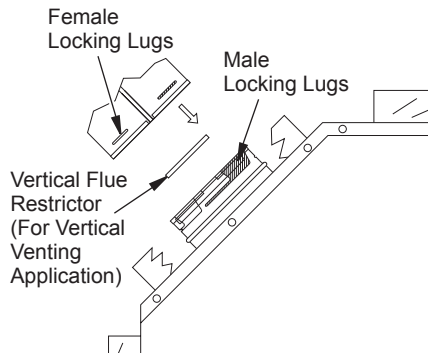

Figure 6 - Venting Installation
1. Install elbow to fireplace collar adapter located on back of the unit at a 45° angle. Slide elbow over collar and twist to lock. Check to insure proper connection (see Figure 6).
6. For vertical installation, a vertical termination is available. Also for vertical venting application, install vertical flue restrictor into inner collar of fireplace as shown in Figure 6, page 7.